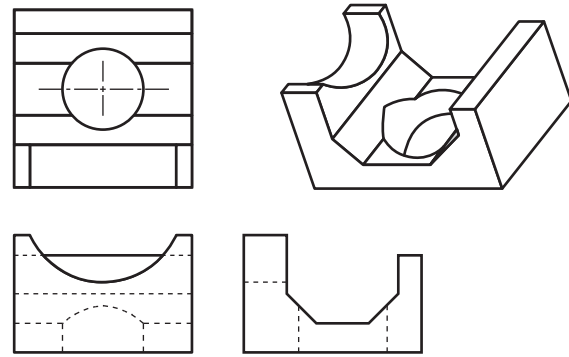

Figure 3-27 The three views as they must appear given the indicated front view.
19. Regarding the answer to Problem 18 (Fig. 3-27), in your opinion, did the engineer select the best front
18. The three views would appear as shown in Fig. 3-27.